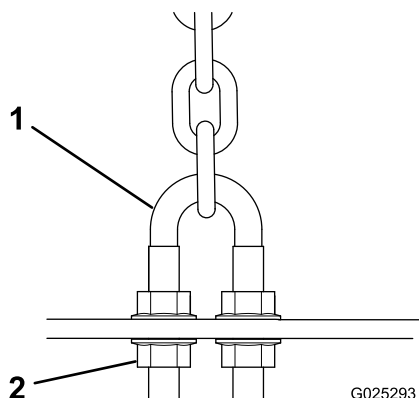
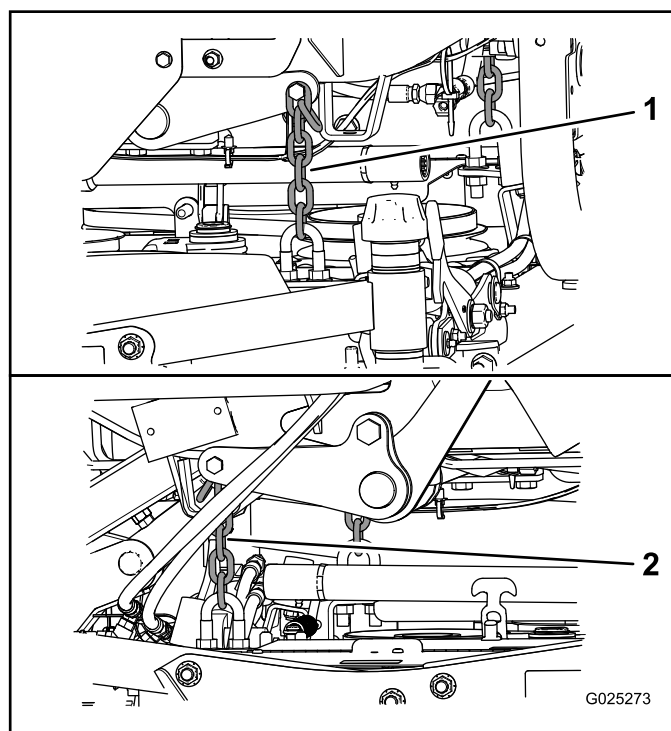

Figure 8
Figure 9
- Adjust the U-bolt jam nuts (Figure 8) securing the rear deck chains (Figure 9) to the mower deck to raise the rear of the mower so that the blade pitch is set to 8 to 11 mm (5/16 to 7/16 inch).
- Adjust the jam nuts securing the deck chains to the mower deck until the mower deck is level (Figure 9).